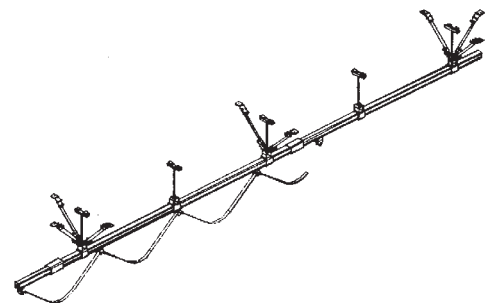

FIGURE 2
3. The fixed end truck will go on the runway that will have the runway electrification (see *Figure 2*). Raise the crane and slide it into the runway track. Immediately install the runway end stops (1/2" diameter bolt, hex nut, lock washer and rubber bumper) and the stack-up section (see step 2-3). If the last sections of the runways have not been installed (refer to step 2-1), securely tie off the crane at both ends to the runway. Check that the fixed end truck remains square to the bridge girder and readjust if necessary using the set screws on the end truck coupler. Re-tighten as per step 5-2 above.